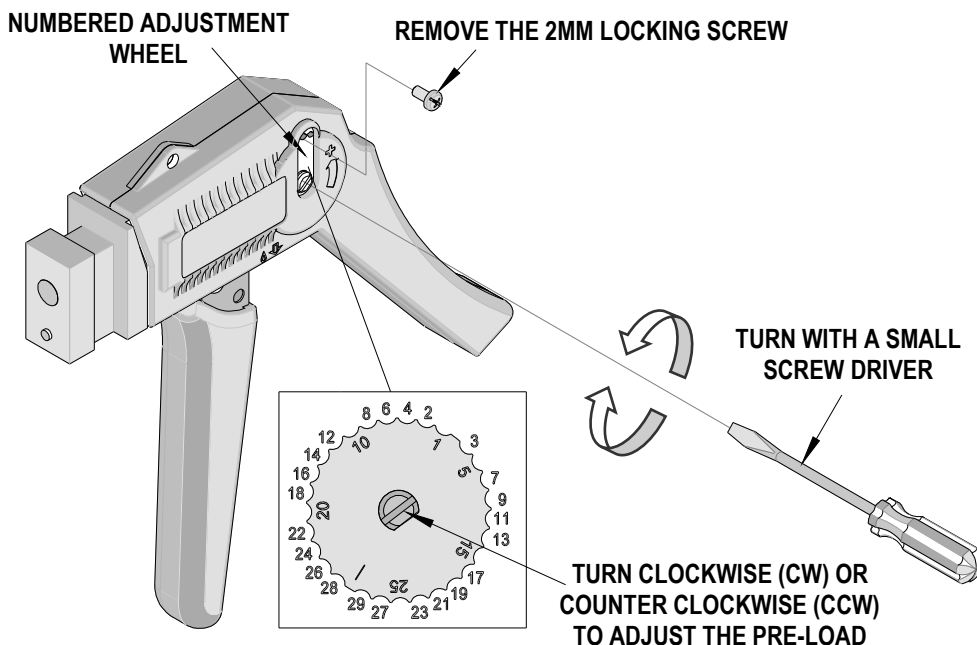

Figure 2
1. Remove the 2mm locking screw from the numbered adjusting wheel using a screw driver. See Figure 2.